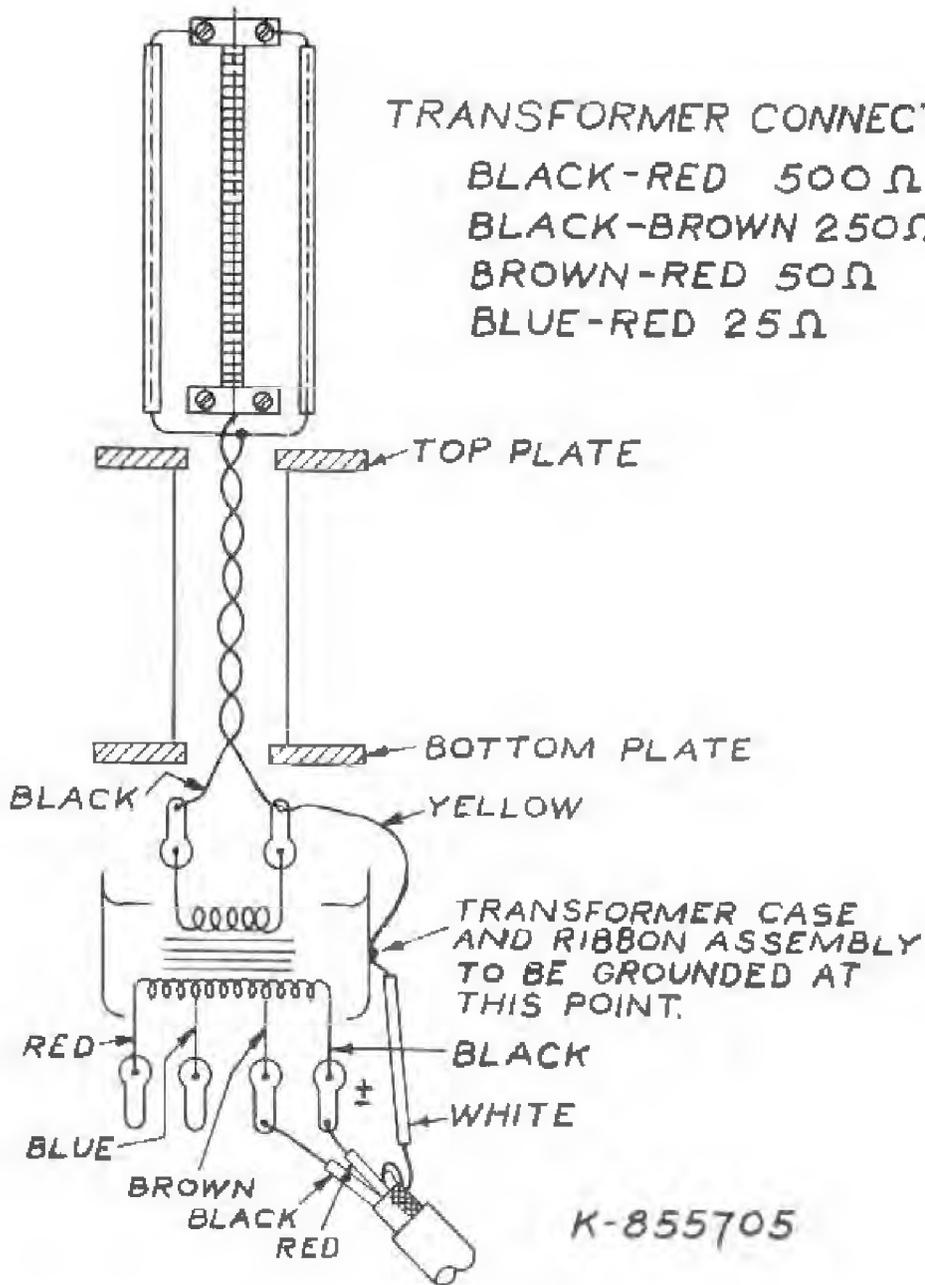

FIGURE 3 -- MICROPHONE CIRCUIT
CABLE CONNECTIONS - The microphone is shipped connected for 250 ohm output. Transformer connections for 500 and 50 ohm outputs are shown in Figure 3. The terminal board is made accessible by removing the hemispherical bottom shell.
1. Never place artists, speakers, or singers nearer than approximately one foot to the microphone. Usually the best results are secured if the performer is three to four feet from the microphone. The low frequency response is increased if the source of sound is within about three feet of the microphone, and it is desirable to maintain this distance unless special effects are desired. Voices tend to become boomy and unnaturally deep-throated if the performer is too close to the microphone. Beyond three feet the response is as shown by the curve. (Figure 3).